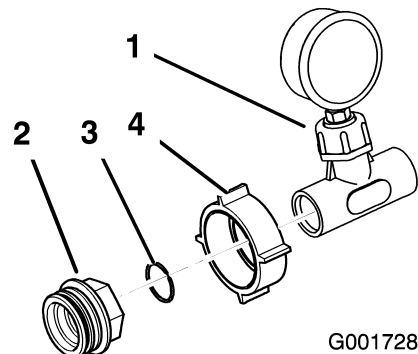

Figure 12
12. Install the large plastic nut over the pressure gauge and tee assembly. Install a plastic O-ring and adapter to the assembly as shown in Figure 12.